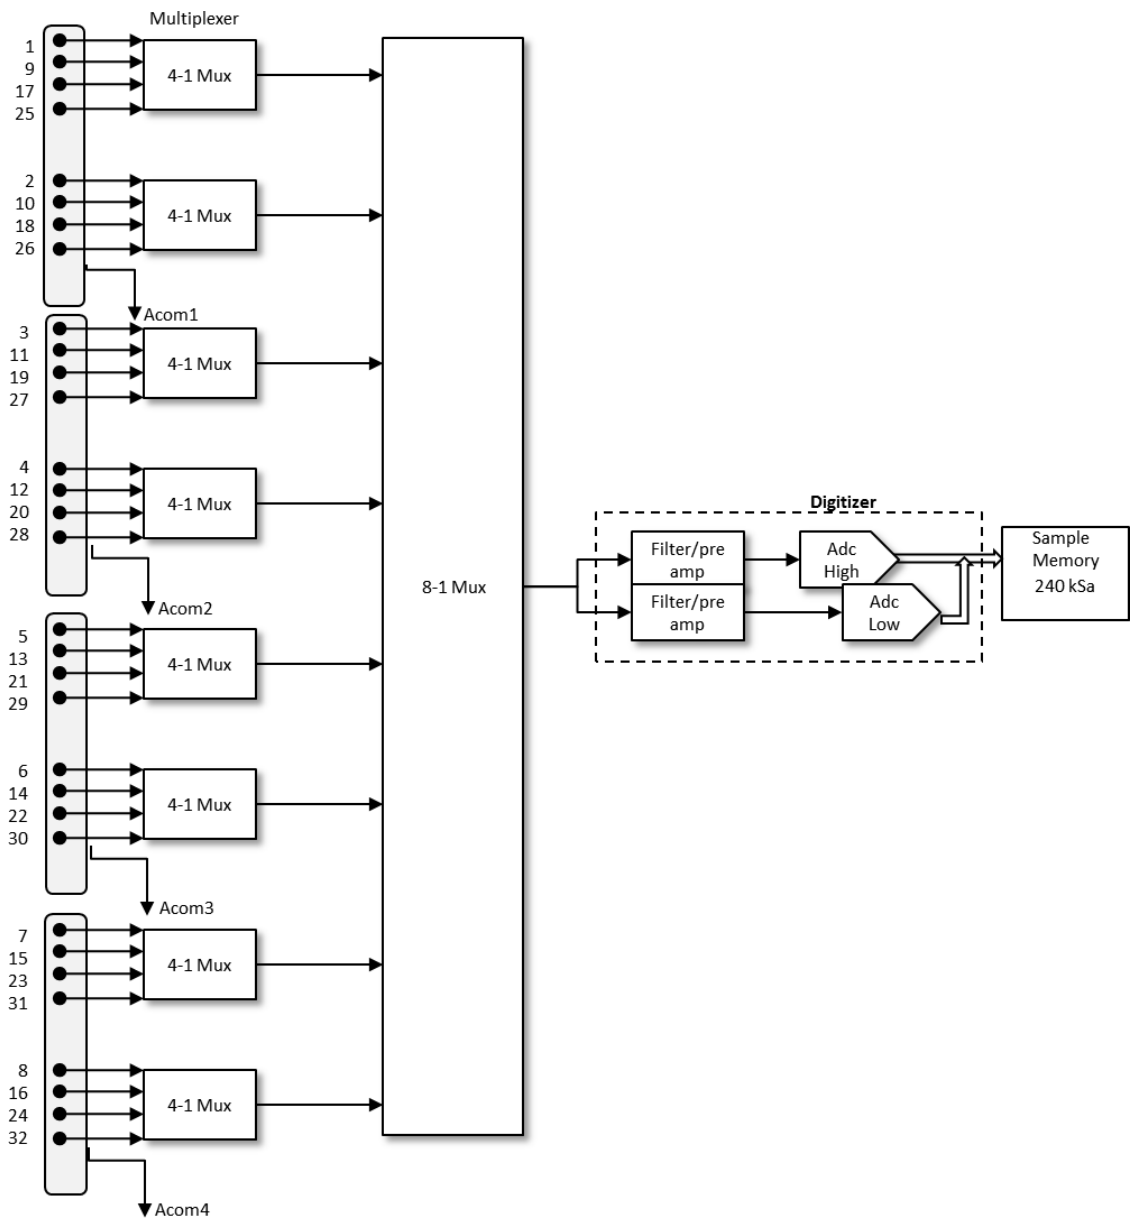

Figure 1-4 M9216A in Single Channel measurement mode
- Figure 1-4 M9216A in Single Channel measurement mode 9
Logically (and programmatically) the M9216A behaves as a single channel digitizer with a 32-1 input port multiplexer. The logical block diagram of the M9216A in Single Channel mode is shown in Figure 1-4.